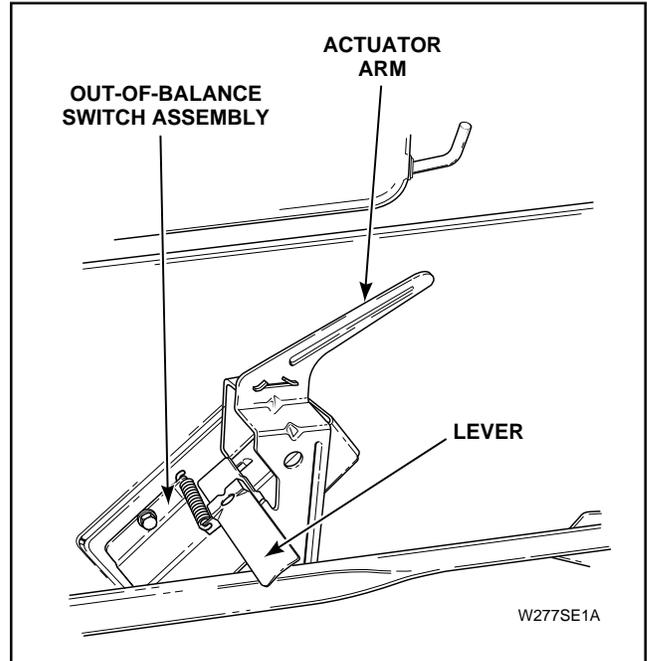

Figure 51
- Check for bent actuator arm or lever, *Figure 51*.